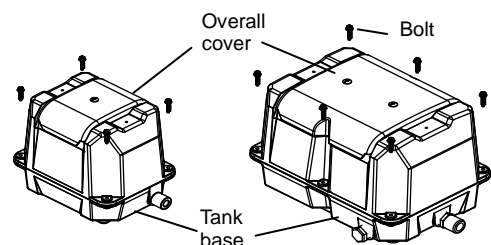

Fig 2
- Undo the corner bolts and remove the overall cover. (Ref.: Fig 2)